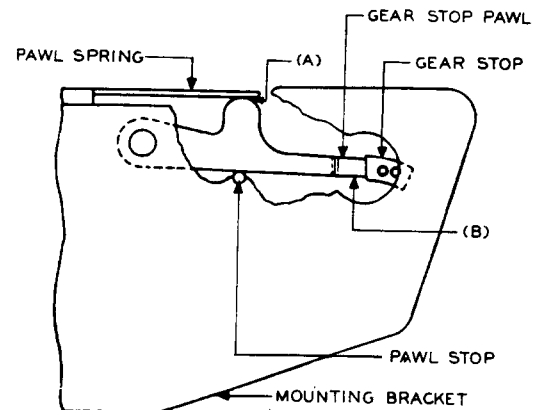

Fig. 9 - Gear Stop Pawl Position
(c) Fig. 9(A) - With the timer gear moved slightly from its normal position and with the pawl resting against the pawl stop, the pawl spring shall either touch the pawl or if it does not touch the clearance between the pawl spring and the pawl shall not exceed 1/64 inch.
***(d) Readjust Only:** Fig. 9(B) - The tension of the pawl spring shall be